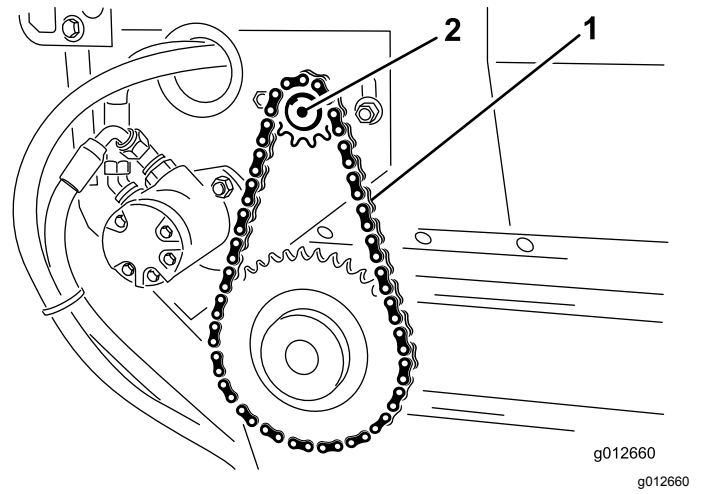

Figure 18
3. Loosen bolts and nuts that secure the motor and sprocket assembly to the main frame (Figure 18).
4. Rotate motor and sprocket assembly (Figure 18) in mounting slots until the conveyor-belt chain deflects 3.2 mm (1/8 inch).